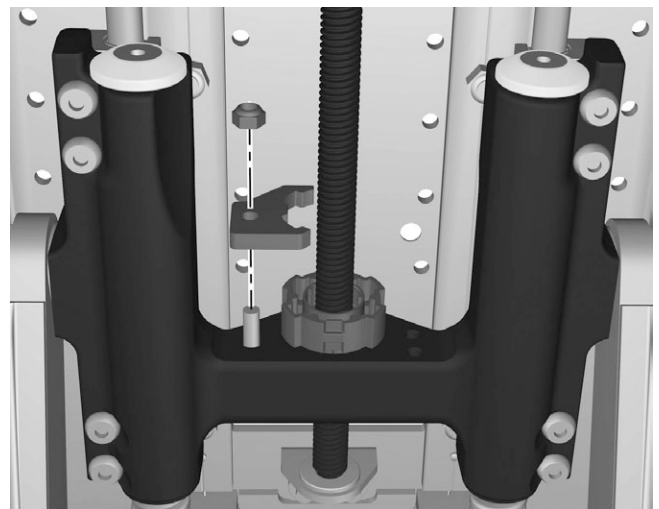

Figure 122. Remove the nut holding the nut lock.
6. Remove the nut and the screw. See fig. 122.